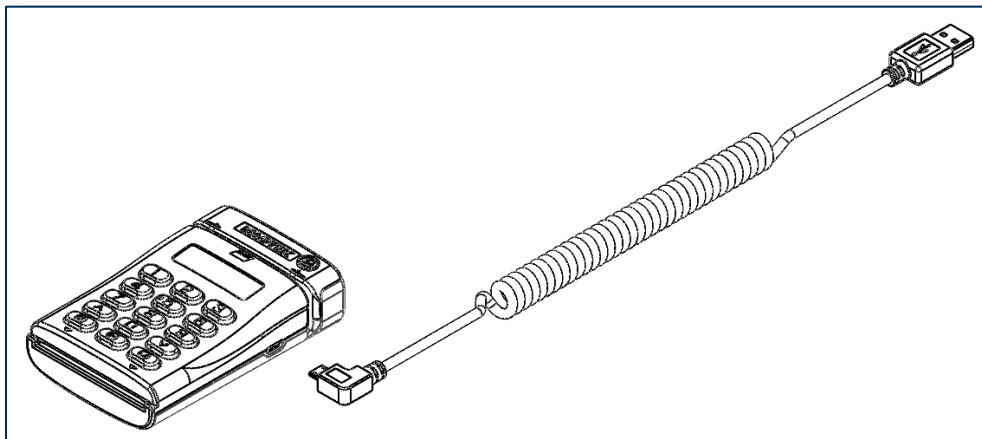

Figure 3-1 - Connecting DynaPro Mini to a Computer
- 2) Connect the small end of the USB cable to DynaPro Mini as shown in **Figure 3-1**.